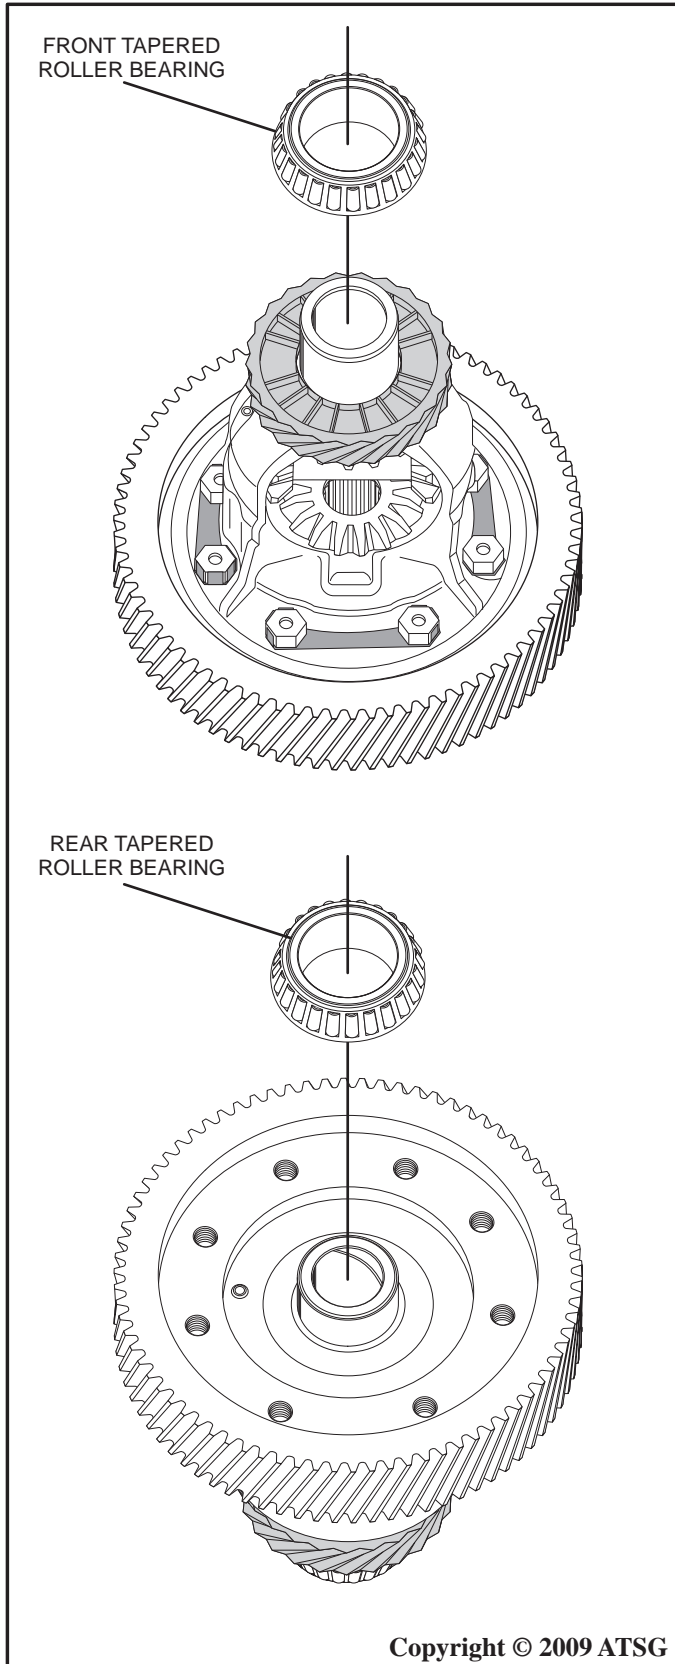

Figure 81
1. Remove the front and rear differential tapered roller bearings using SST 09950-04011 (09951-04010, 09952-04010, 09953-04030, 09954-04010, 09955-04061, 09957-04010, 09958-04011), 09950-60010 (09951-00440). Refer to Figure 81 for disassembly diagram.